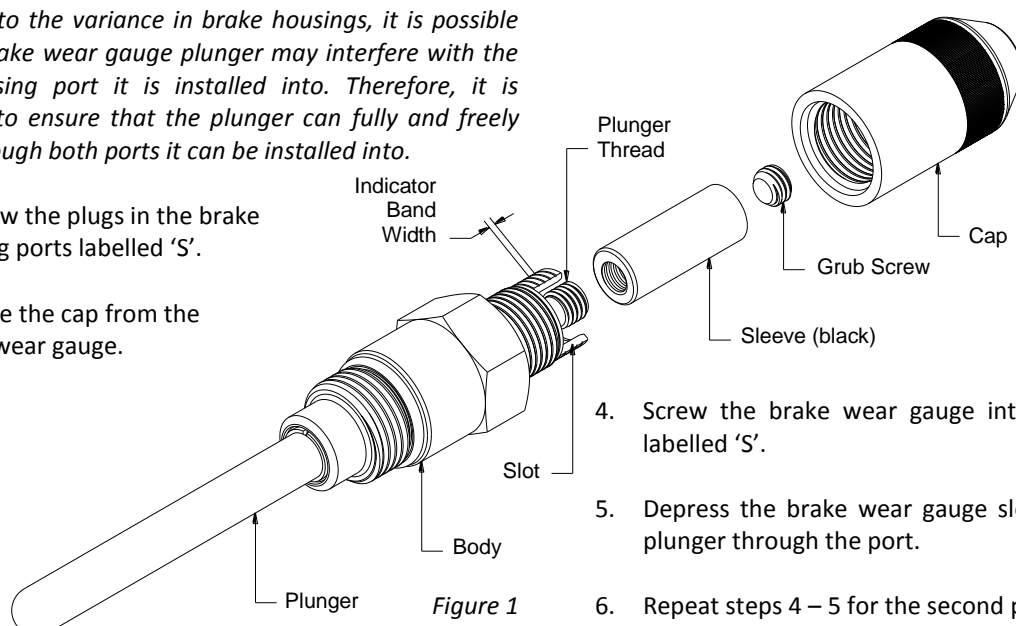
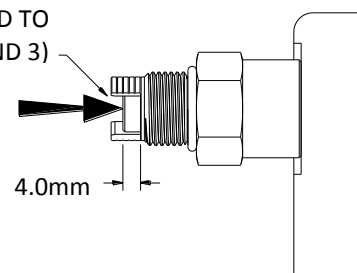

Figure 1
Figure 5
*Each band corresponds to 20% brake wear. Refer Figure 1 and Figure 5.